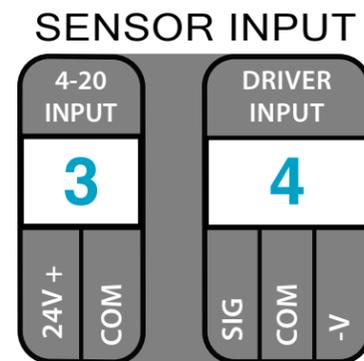

Figure 49
1. Connect the driver to the **Proximity Probe Driver Input** (labeled "4" in Figure 49):